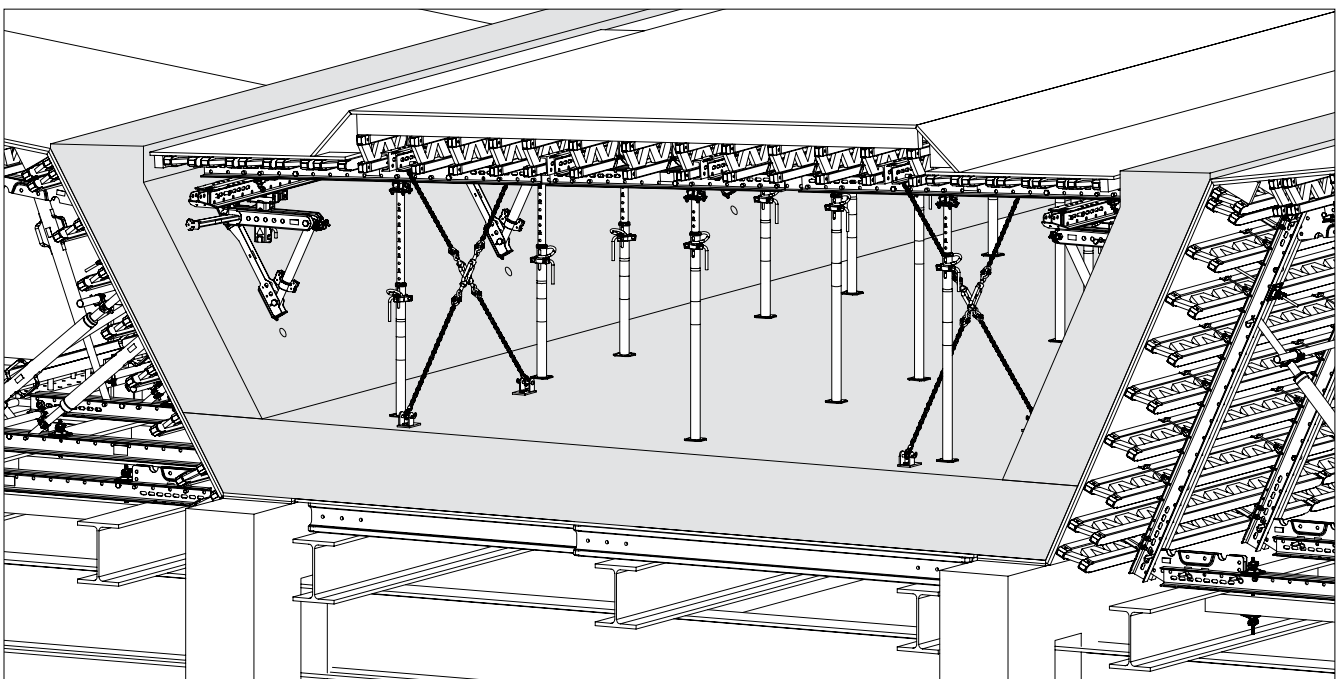

Fig. B5.08
3. Tension the tensioning chains. (Fig. B5.08)